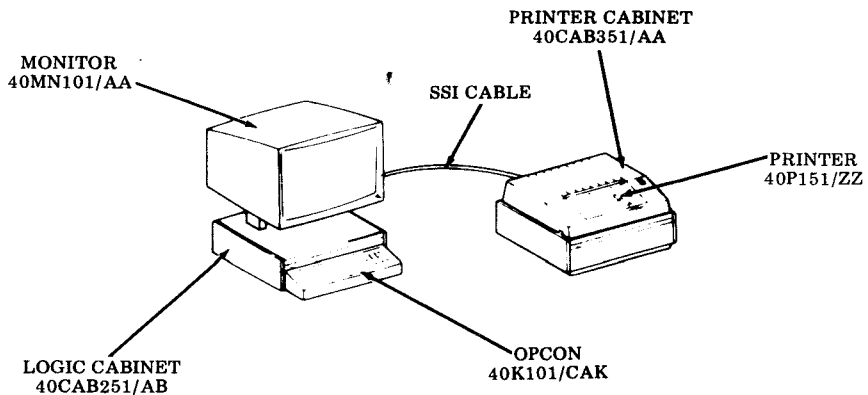

Fig. 10
3.09 Keyboard Display Printer (KDP) Set With Adjacent Tractor Feed Printer — Table Model (Fig. 10)